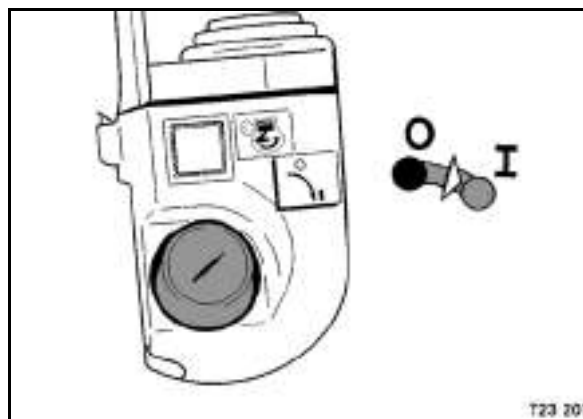

Fig. 36
- Switch on the ignition (Fig. 36).